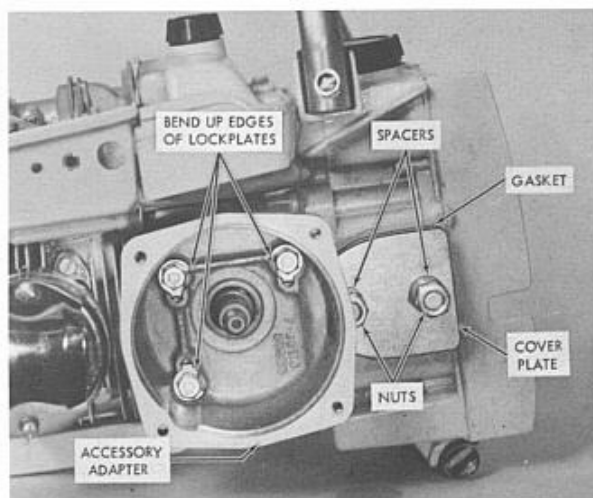

Figure 7. Installation of Adapter
4. Install the Accessory Adapter on the engine crankcase with three 1/4 x 1-1/8-inch screws (P/N 103258) and three 1/4-inch lockplates (P/N 36306). Insert the prongs of the lockplates into the lockholes in the adapter. Tighten the screws to 90 to 120 inch/pounds torque (8 to 10 foot/pounds) and bend up one edge of each lockplate to hold the screws. (See Figure 7.)